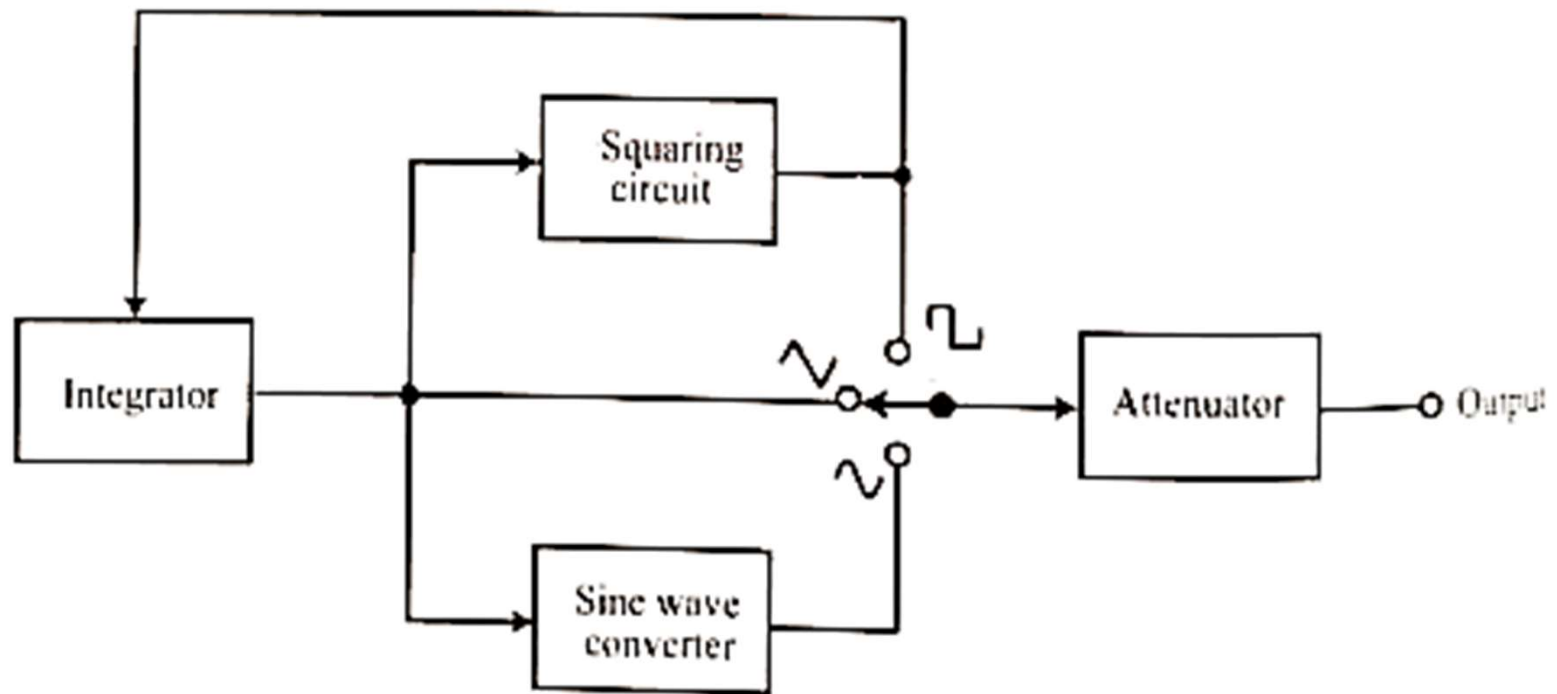

Figure 7.4: Block diagram for function generator
- Figure 7.4 shows the block diagram of a function generator.